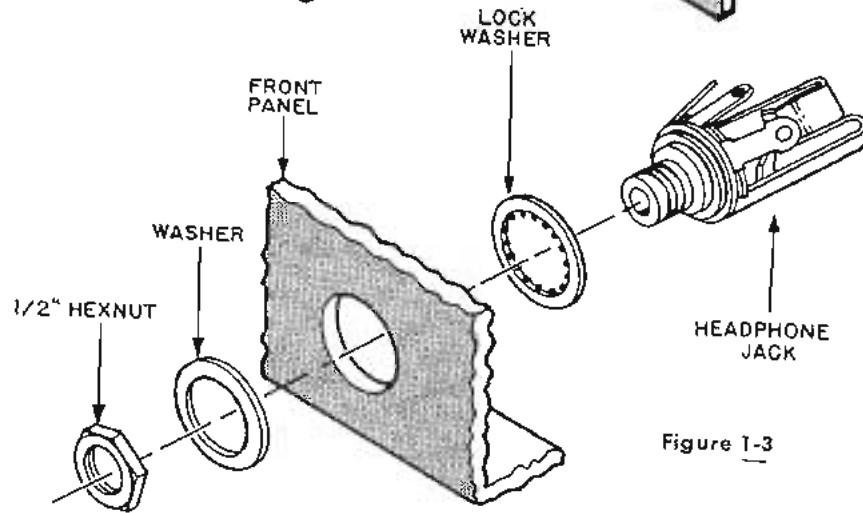

Figure 1-3
Step 1-C Mount the phone jack, J5, as shown in Fig. 1-3 in the large round hole in the center of the panel. Slip the lockwasher over the jack bushing before mounting it. Before tightening the hex nut, be sure the lugs are positioned as shown in Fig. 8.